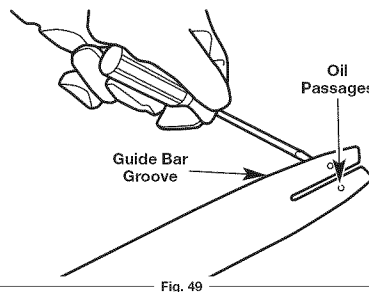

Fig. 49
- Clean the guide bar groove and oil passages whenever the saw chain is removed, when the unit has been used heavily or when the saw chain appears dirty (Fig. 49). Oil passages can be cleaned with a soft wire small enough to insert into the oil discharge hole (Fig. 49).